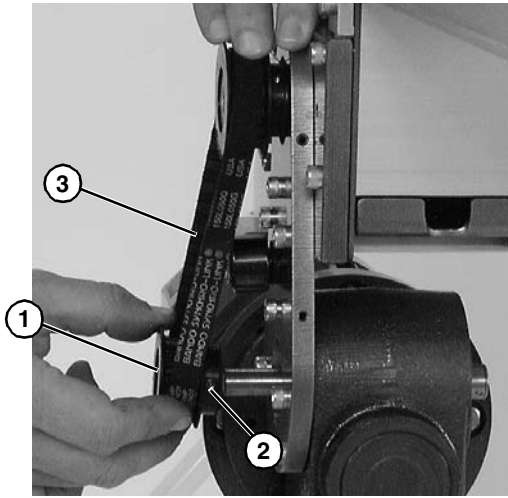

Figure 17
If drive pulley (**Figure 17, item 1**) is replaced, wrap timing belt around drive pulley and complete step 3.
- Loosen drive pulley set screws (**Figure 17, item 2**). Remove drive pulley (**Figure 17, item 1**) and timing belt (**Figure 17, item 3**).